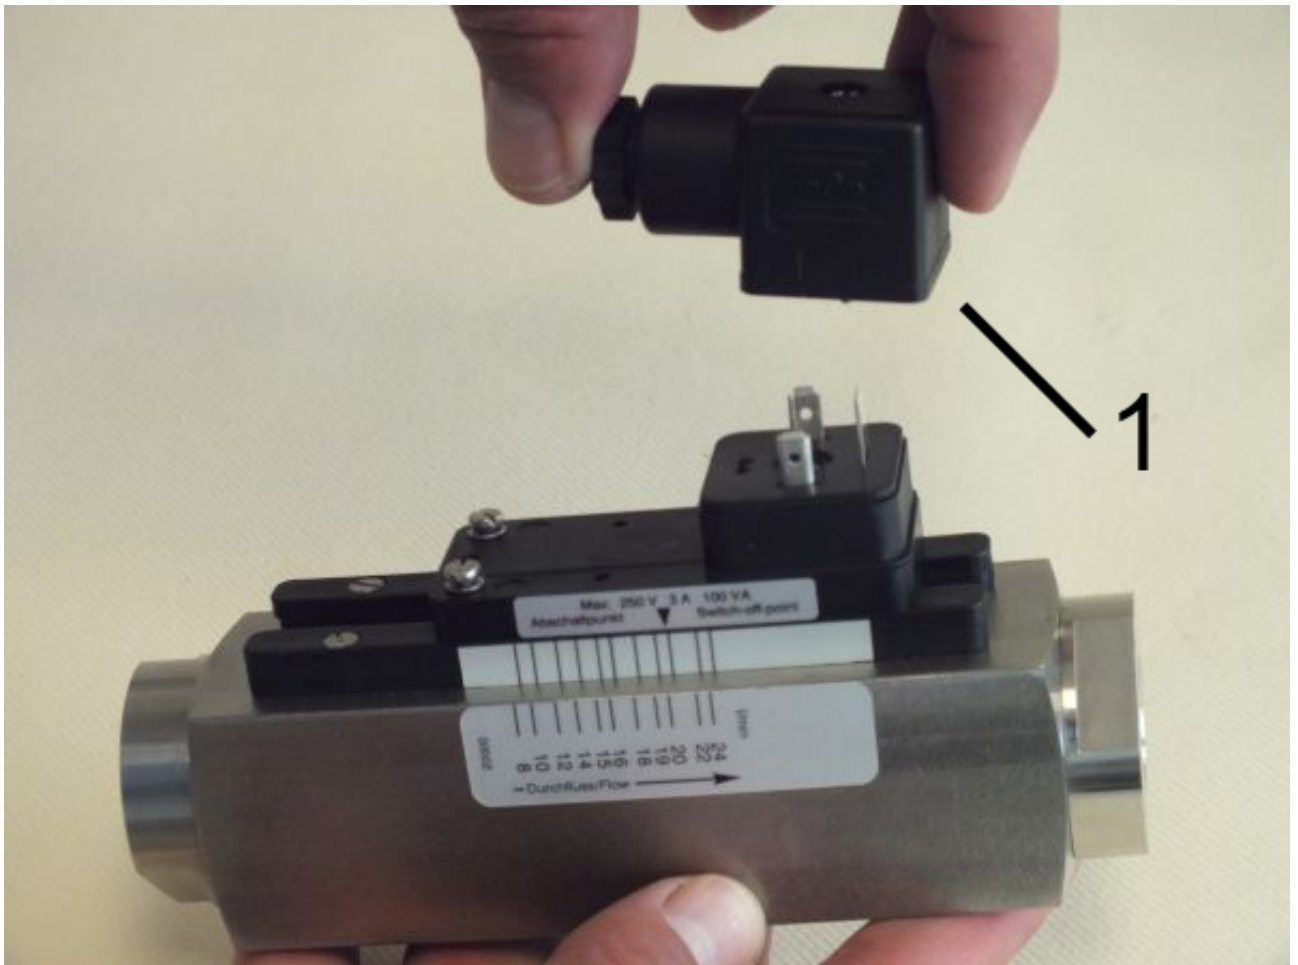

Fig. 59: Remove female socket
2. ➤ Remove the female socket and gasket (Fig. 59/1) by pulling upwards